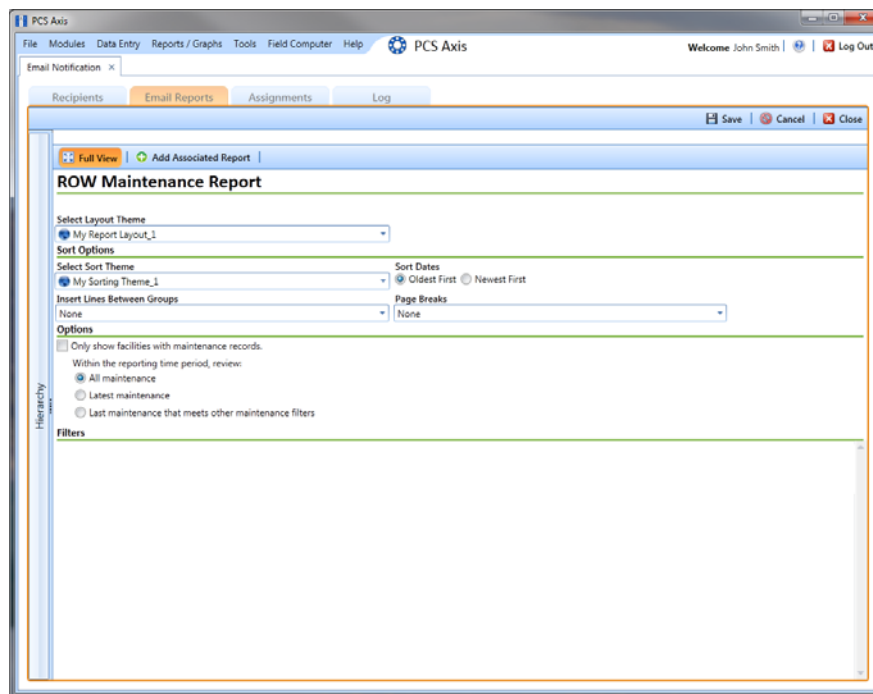

Figure 11-11. Email Reports
- 10 Click  **Full View** to only display fields for setting report options. Clicking *Full View* again displays all fields (Figure 11-11).